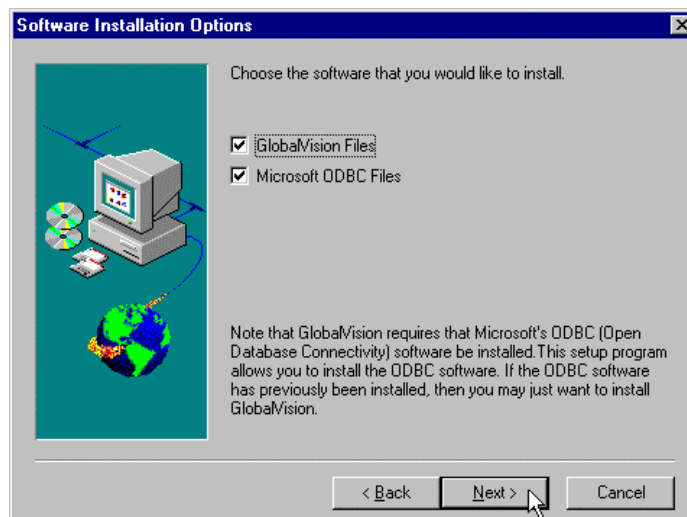

Figure 10 – Software Installation Options dialog box
6. SOFTWARE INSTALLATION OPTIONS are displayed. Ensure that **GlobalVision Files** box is selected and if you would like the MICROSOFT® ODBC FILES installed (if this has not been previously installed, it is recommended to be installed), ensure that this box is selected. Click **NEXT>** to continue installation. See Figure 10.